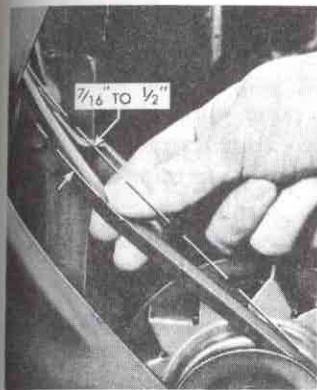

Fig. 71—Fan Belt Adjustment
2. Pull generator away from engine until desired belt tension is obtained. With correct adjustment a light pressure on the belt at a point midway between pulleys should cause a $7/16''$ to $1/2''$ deflection (fig. 71).